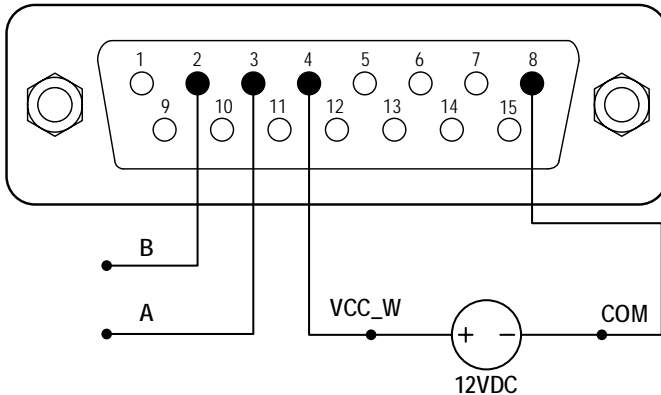

Figure 21. RS485 MODBUS Wiring
- 1) When the power is off, wire the DB15 connector as shown on *Figure 21*, and connect it to the DB15 port on the rear of the pump. External DC power source is recommend to avoid electrical interference.